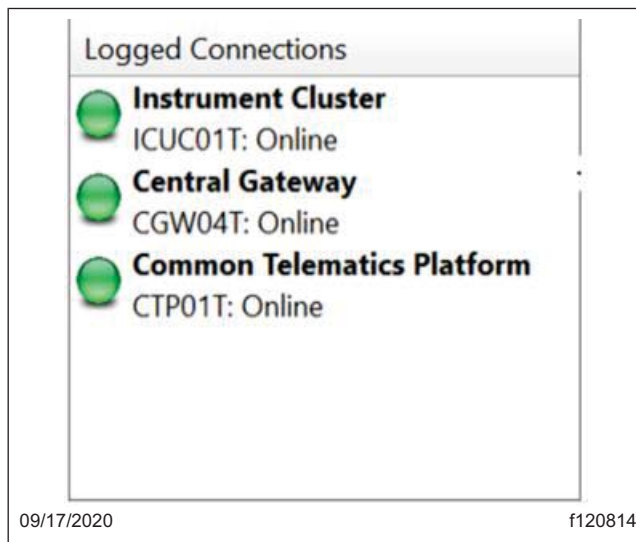

Fig. 2, DiagnosticLink Connections Panel
8. Wait until all three controllers are fully connected and the connection indicators turn green. See Fig. 2.